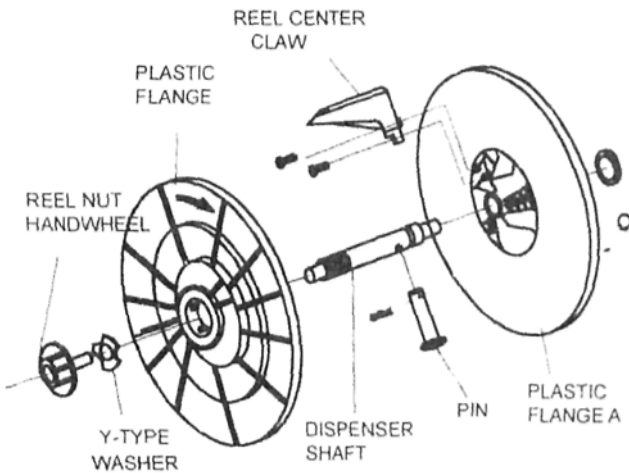

FIGURE 7 DISPENSER ASSEMBLY
Refer to Figure 7. and proceed as follow:
1. Withdraw the dispenser assembly. Place the assembly as shown. (Fig.7,P.6)